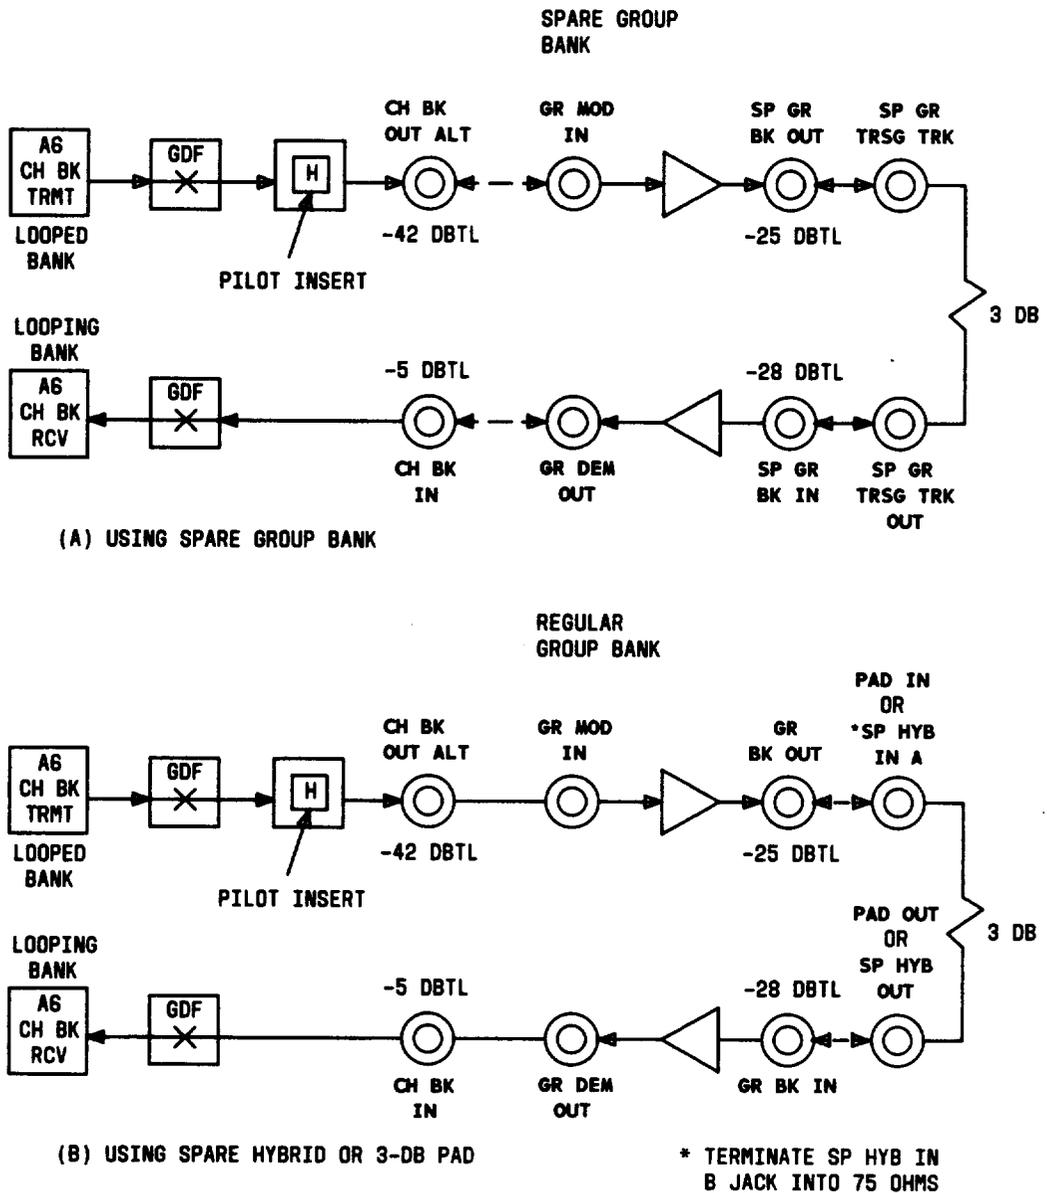

Fig. 12—Typical Channel Bank Equal-Level Cross-Looping Arrangements—LMX-2
- 3 At LMX-2 equipment, make looping connections as shown in Fig. 12(a) or 12(b), as applicable.